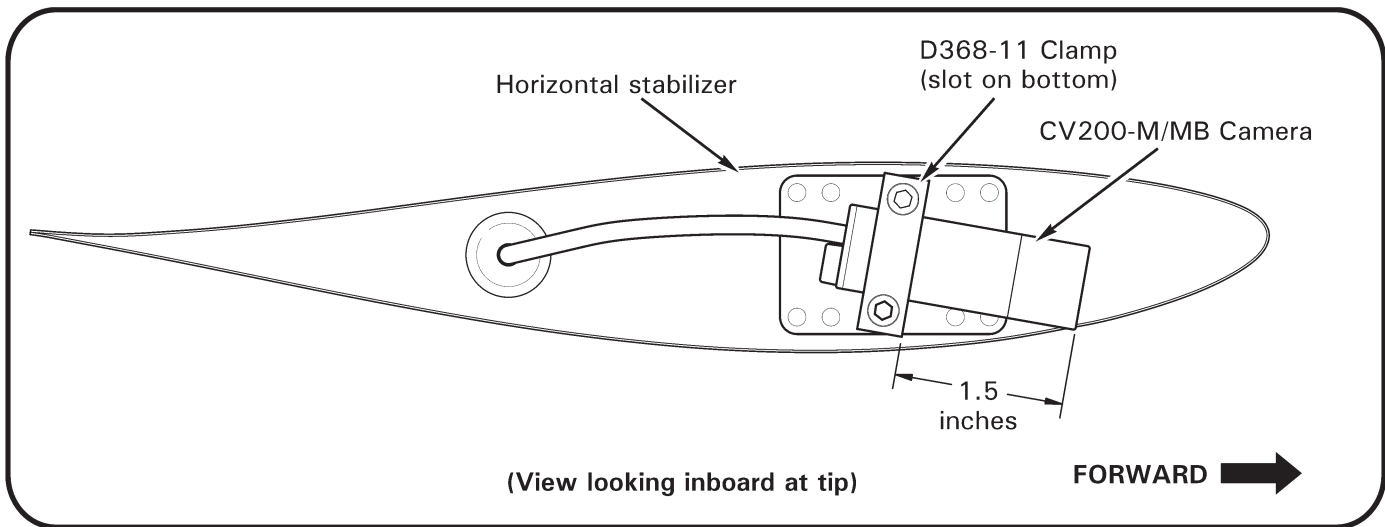

FIGURE 92-2 ENG VERSION
3. Refer to Figure 92-2. Position D368-11 clamp on camera (clamp slot on bottom) with camera protruding 1.5 inches from clamp as shown. Install screws securing clamp and camera to horizontal stabilizer. Verify security.